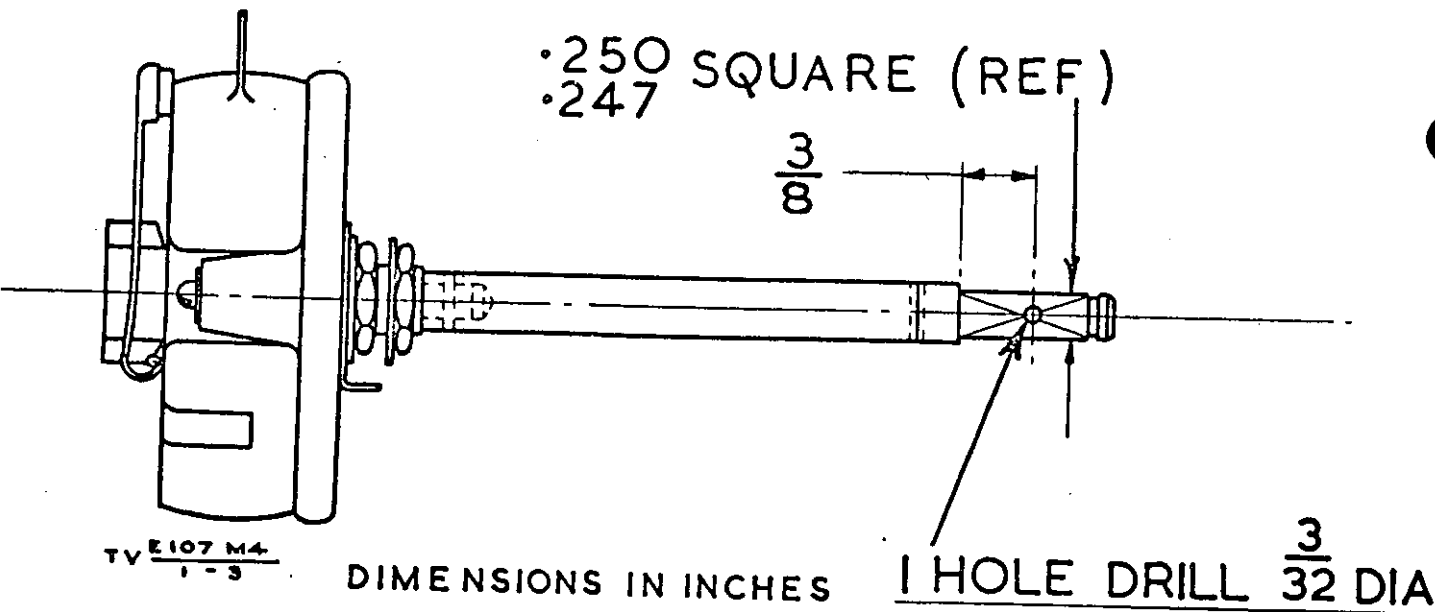

Fig 3 - Rheostat spindle - hole drilled
- f. See Fig 3: Drill a 3/32 in. diameter hole through rheostat spindle at dimensions shown.